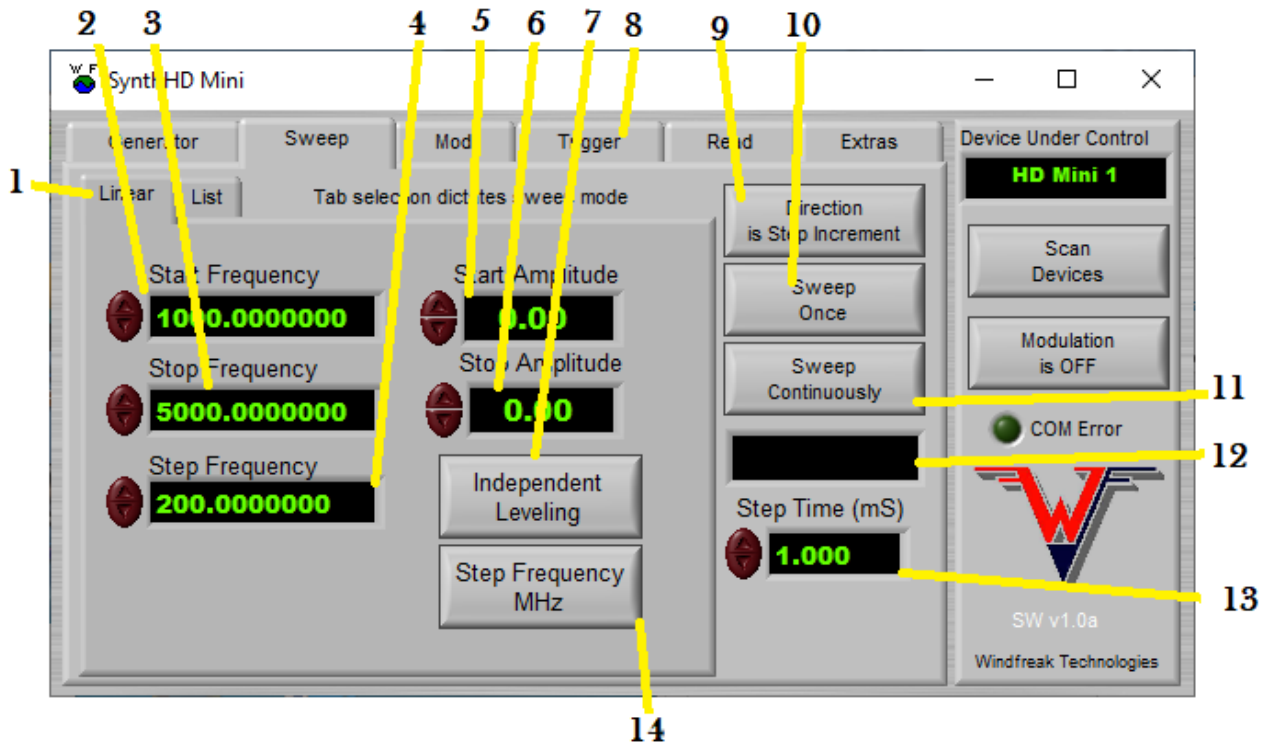

Figure 2 – Sweep Tab – Linear Sweep
The **Sweep Tab** (figure 2) is the place to set up sweeps. Sweeps can be either linear or come from a table.
1. **Sweep Type Tab.** Choose either Linear (which includes Percentage Sweep) or List. Linear is explained in Figure 2. The table can be a total of 500 unique frequencies and amplitudes. List sweep acts almost exactly like linear sweep except it steps in arbitrary ways defined by the user. Right click on the table or a cell for advanced editing tools. The first step must always be zero.
2. **Full Frequency Sweep.** Detailed in Figure 2 and Figure 3 Item 10.
3. **Single Sweep Step.** Detailed in Figure 2 and Figure 3 Item 10.
9. **Sleep.** Powers up and down the device. Much longer than (5) RF on/off but also has full RF quieting.